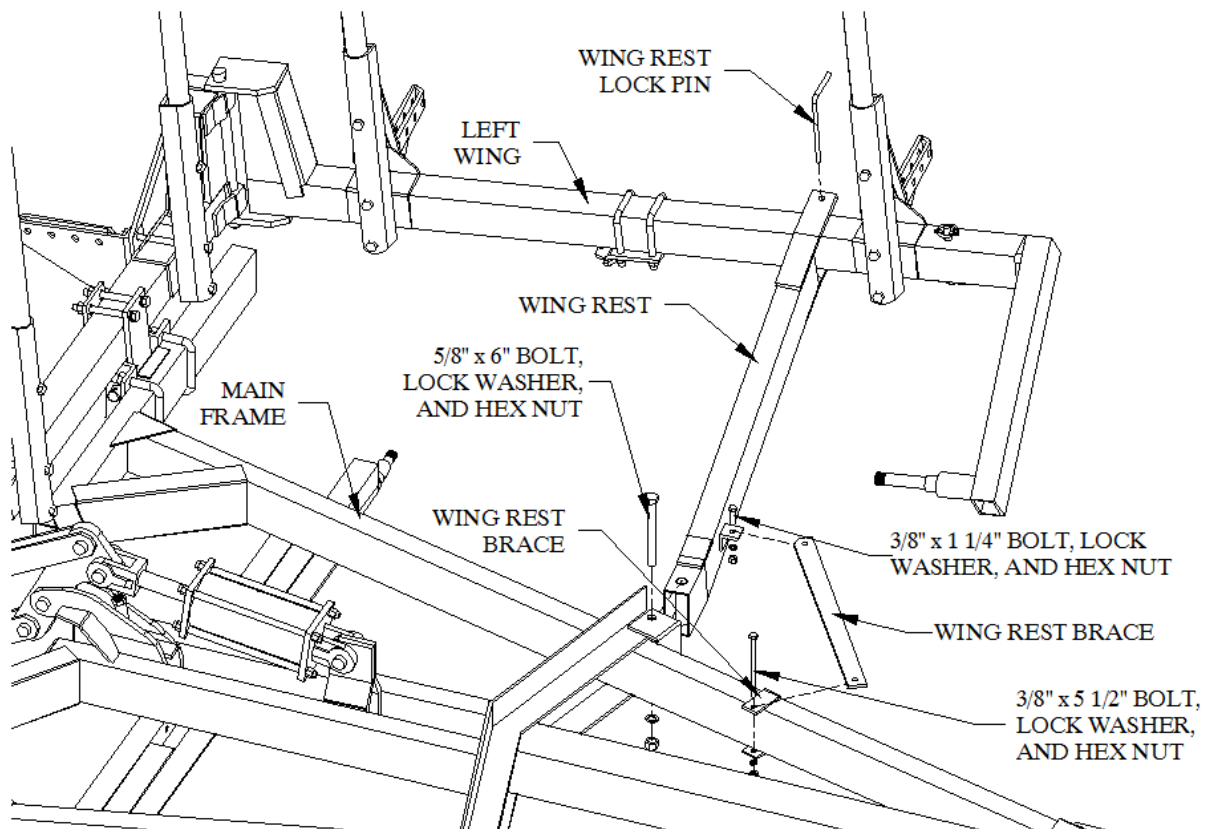

Figure 26
(Refer to Figure 26)
2. With the center bar and wings in the upright position, swing the wings forward. **Be sure the unit is attached to a tractor of adequate size before actuating the hydraulics!** Place the wings in the wing rests as shown in Figure 26. If the wing tube height does not line up with the wing rest, the stop bolt must be adjusted (this will be done later in the final adjustment).